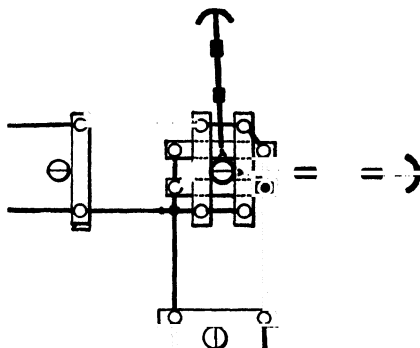

FIG. 12-4. Two guys installed on corner pole. Each guy counterbalances the pull of one set of wires.
**Corners.** All corners should be considered as dead ends. They should, therefore, be guyed the same as terminal poles except that there will be two guys, one for the pull of the conductors in each direction (Fig. 12-4). Where the guys would interfere with traffic, etc., a stub guy should be installed.